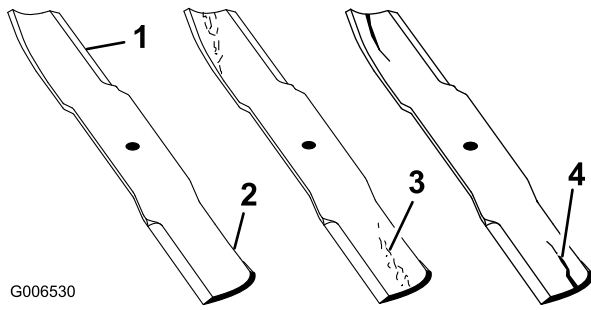

Figure 50
1. Inspect the cutting edges (Figure 50). If the edges are not sharp or have nicks, remove and sharpen the blades. Refer to Sharpening the Blades.
2. Inspect the blades, especially the curved area (Figure 50). If you notice any damage, wear, or a slot forming in this area (Figure 50), immediately install a new blade.